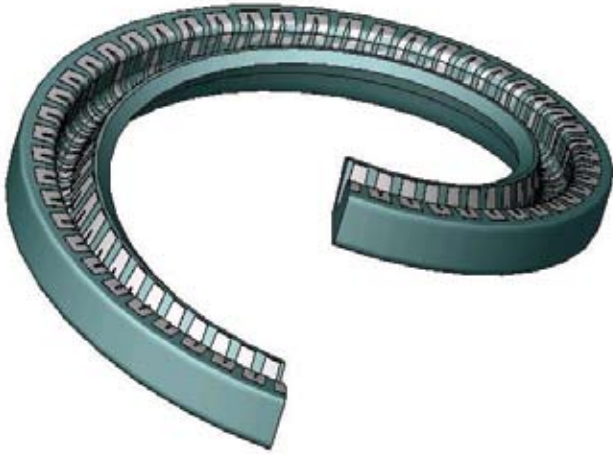

Fig. 66 Split the seal around the axis of rotation
- Split the seal along the axis of rotation (shown in Fig. 66) and place the seal around the shaft.